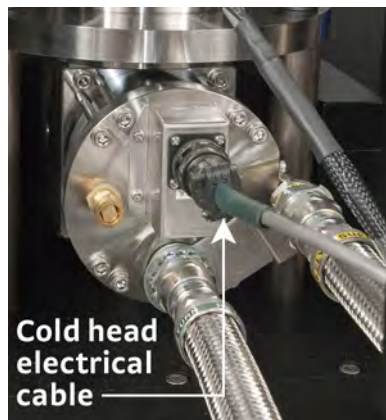

FIGURE 3-16 Left: Connect the cable to the cold head; Right: Connect the cable to the compressor
2. Connect the cable to the cold head. Note the orientation of the guiding keys and rotate as necessary to align the plug to the receptacle. Thread securely (FIGURE 3-16).
3. Connect the cable to the compressor. Note the orientation of the guiding keys, and rotate as necessary to align the plug to the receptacle. Thread securely (FIGURE 3-16).